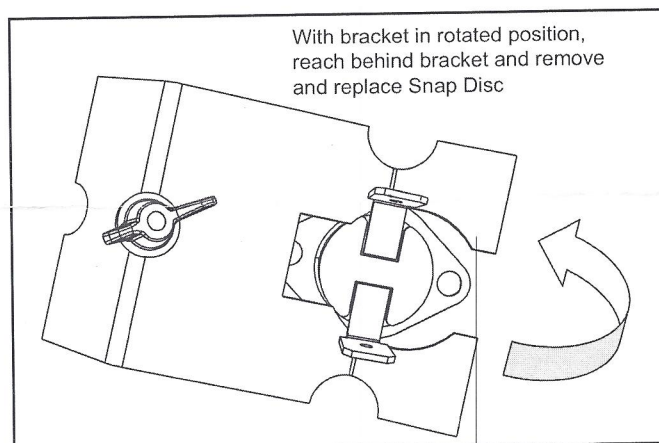

Figure 6
12. When bracket is loose enough, rotate the bracket counterclockwise and away from feed tube. **Figure 6.**